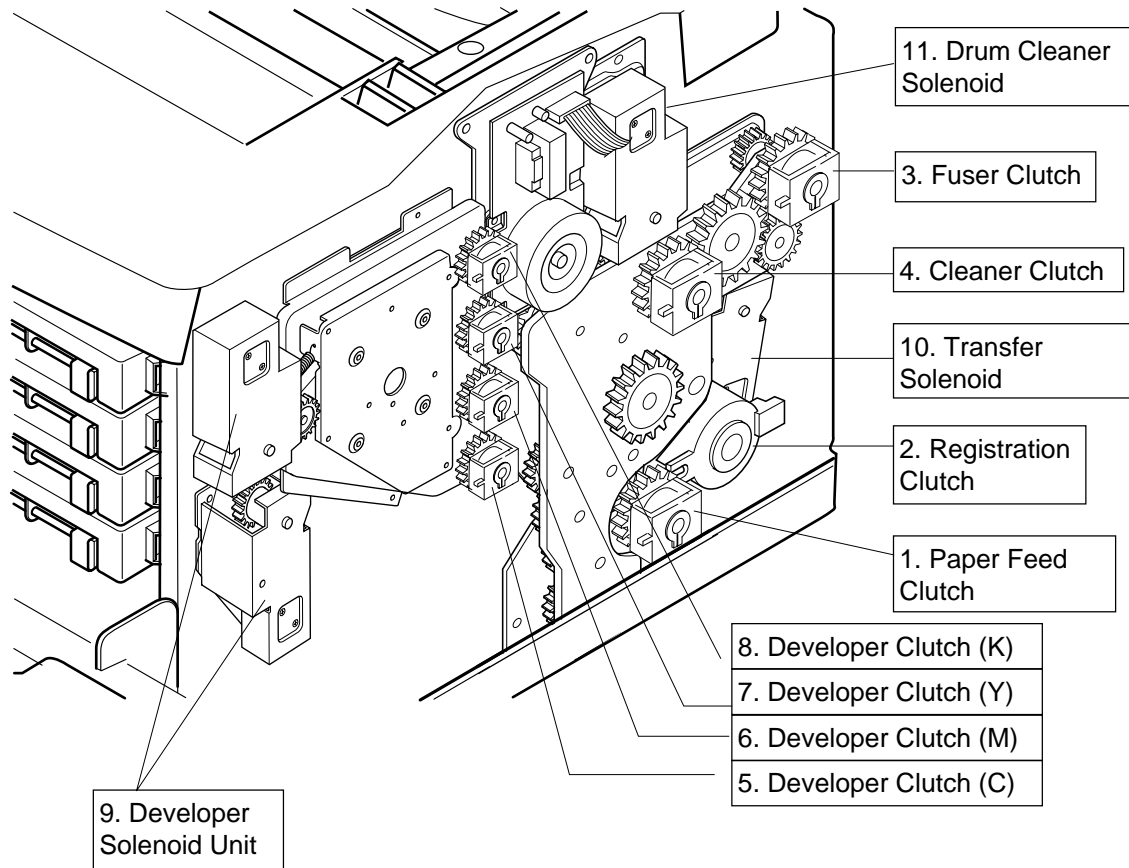

Fig.4-31
(3) Clutches and Solenoids (Refer to Fig.4-31.)